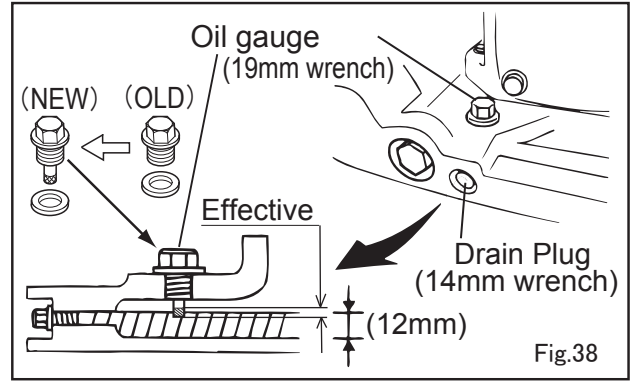

Fig.38
6. Checking the vibrator oil (See Fig.38)